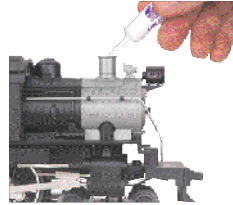

Figure 1 - Priming Smoke Unit
1. You should prime the operating smoke unit with smoke fluid before operating. Add 15-20 drops of smoke fluid through the smokestack, then gently blow into the stack to eliminate any air bubbles in the fluid. See Fig. 1.
- When preparing to run this engine, add 15-20 drops of smoke fluid through the smokestack (see Fig. 1). We recommend M.T.H. ProtoSmoke, Seuthe, LGB, or LVTS fluids (a small pipette of ProtoSmoke fluid is included). Do not overfill the unit or the fluid may leak out and coat the interior engine components.